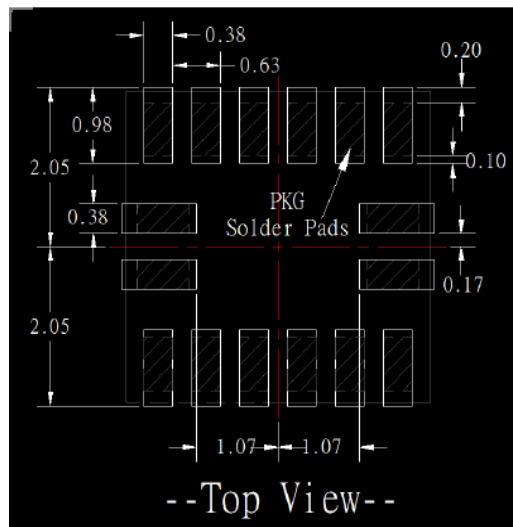

Figure 8. Recommend Layout PCB
2. Recommended dimension of pad is shown in Figure 8. The actual pad size design will need to consider components aside. (All dimensions are in mm)